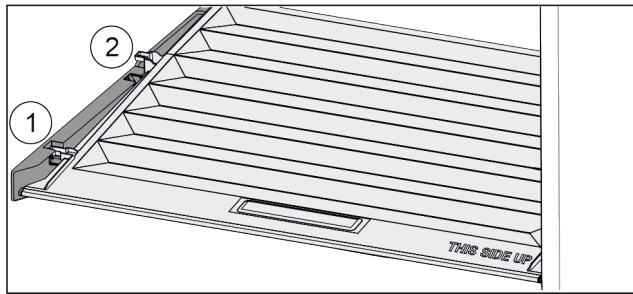

Fig. 88
- ▶ Pull the lid up at the front to the opening in the retaining parts Fig. 88 (1).
- ▶ Lift from the back and pull it up and out Fig. 88 (2).